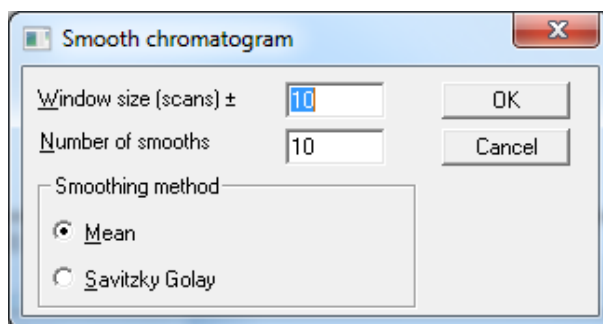

Figure 6 - Smooth chromatogram settings
2. Use Global / Replace and Smooth all the chromatograms using the settings in Figure 6: